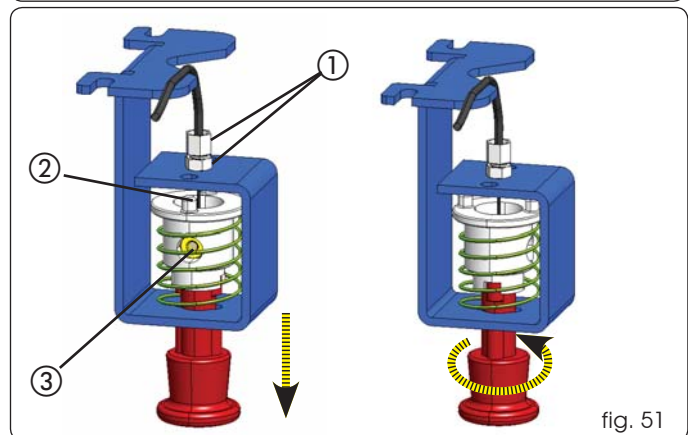

fig. 51
- Screw the adjusting screw with the relevant securing nut as shown in fig.51 ref. ①.
- Insert the steel cable into the adjusting screw; let it route inside the release device (fig. 51 ref. ②).
- Block the steel cable by means of the relevant clamp and tighten the screw (fig. 51 ref. ③).
- Block the knob by pulling it and turning it by 90° and make sure that it does not return to its original position (fig. 51).
- If adjusting operations are necessary, use the knob bracket adjusting screw (fig. 51 ref. ①).